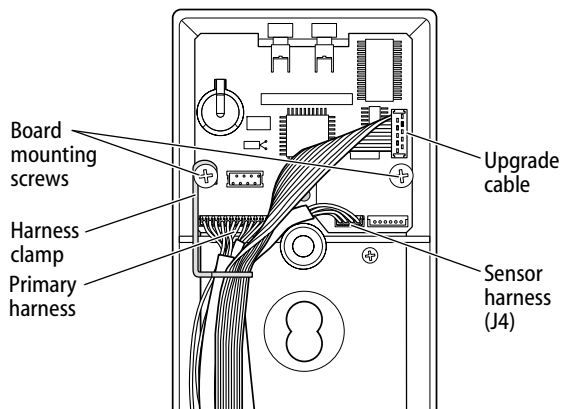

Figure 6 Replacing the sensor harness
- 3 Disconnect the sensor harness from the electronics board, as shown in Figure 6.
- 6 Position the primary harness, sensor harness, and upgrade cable under the clamp, as shown in Figure 6.